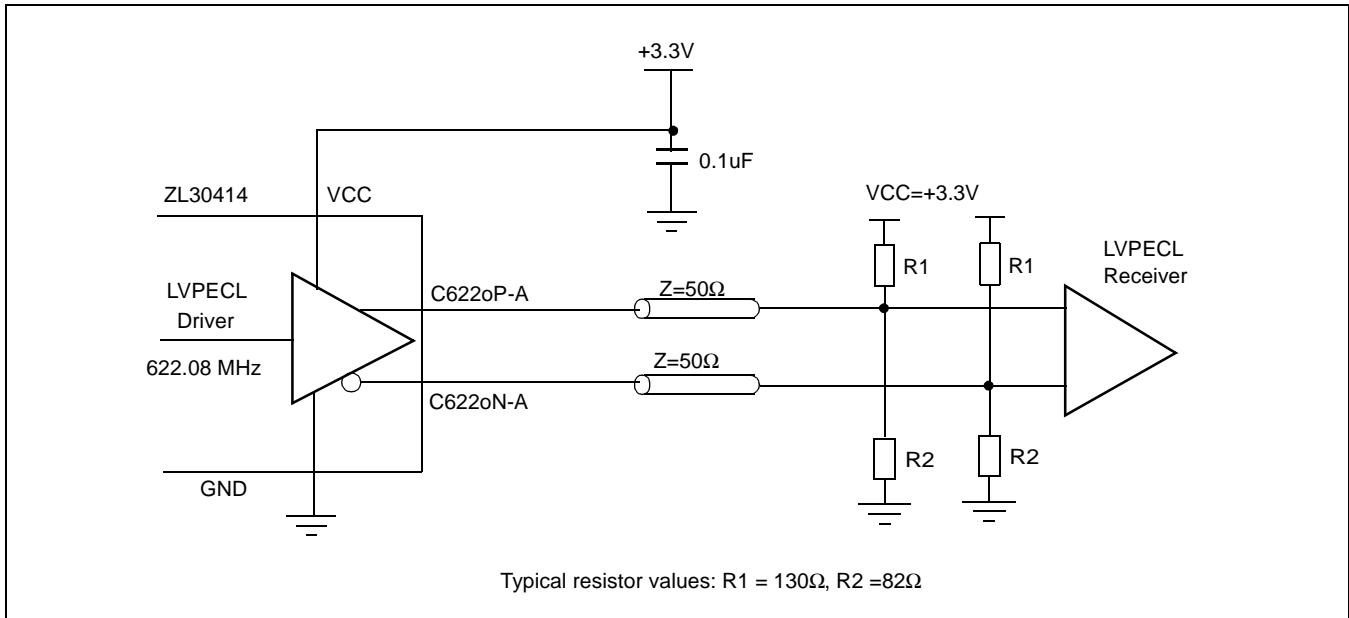

Figure 8 - LVPECL to LVPECL Interface
- Note 2: LVPECL outputs terminated with  $Z_T = 50\Omega$  resistors biased to  $V_{CC}-2\text{V}$  (see Figure 8)